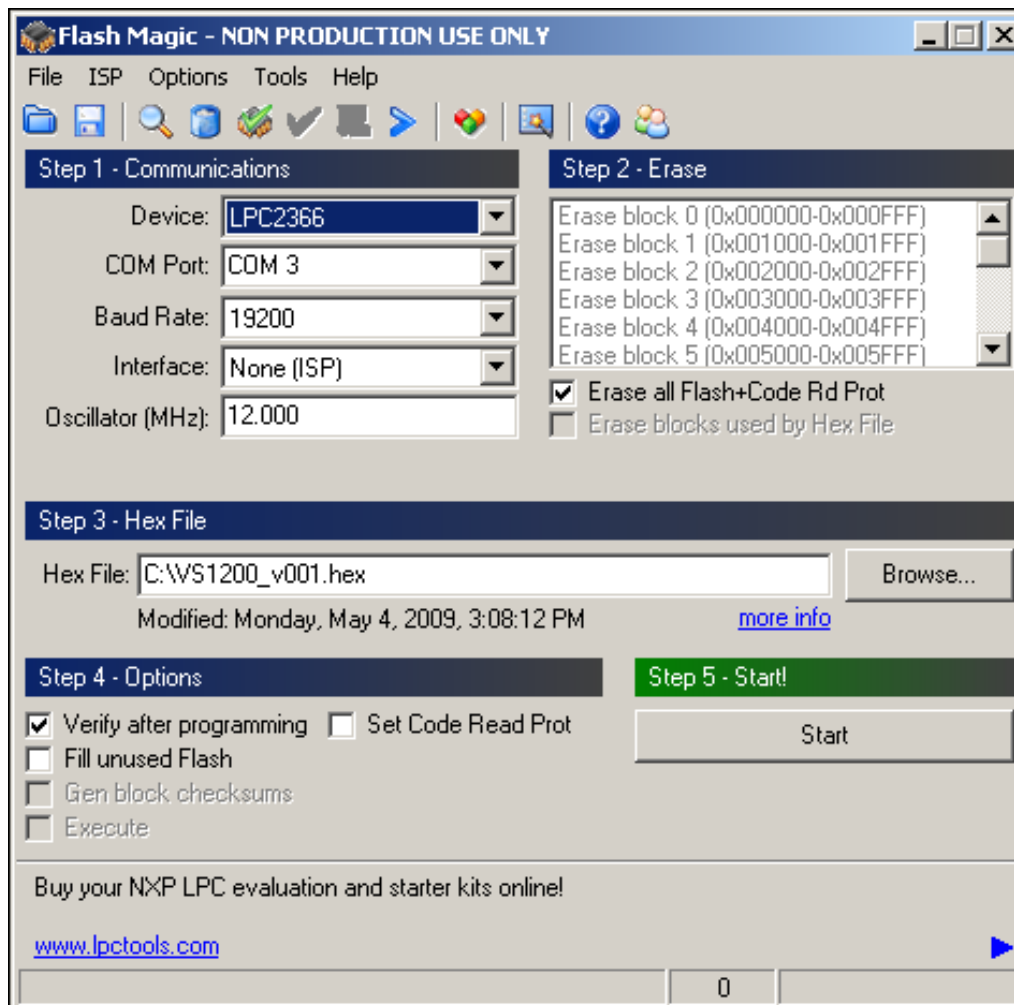

Figure 33
Step 3: Open Flash Magic and configure as shown in Figure 33. Use Browse to select the .hex file (Version 0.01 is provided in the .zip document package). The 1200XT Programmer will create a COM port when the USB is attached to the PC. Be sure the correct COM port is selected in Flash Magic. The available COM ports may be viewed through the Control Panel -> System Devices or by typing the command MODE in a DOS prompt.